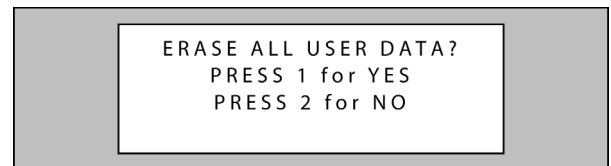

Figure 5: Clear Memory Menu
1. From the Reset Menu, select number 2 on the controller keypad. The LCD will display the Clear Memory Menu (see Figure 5).